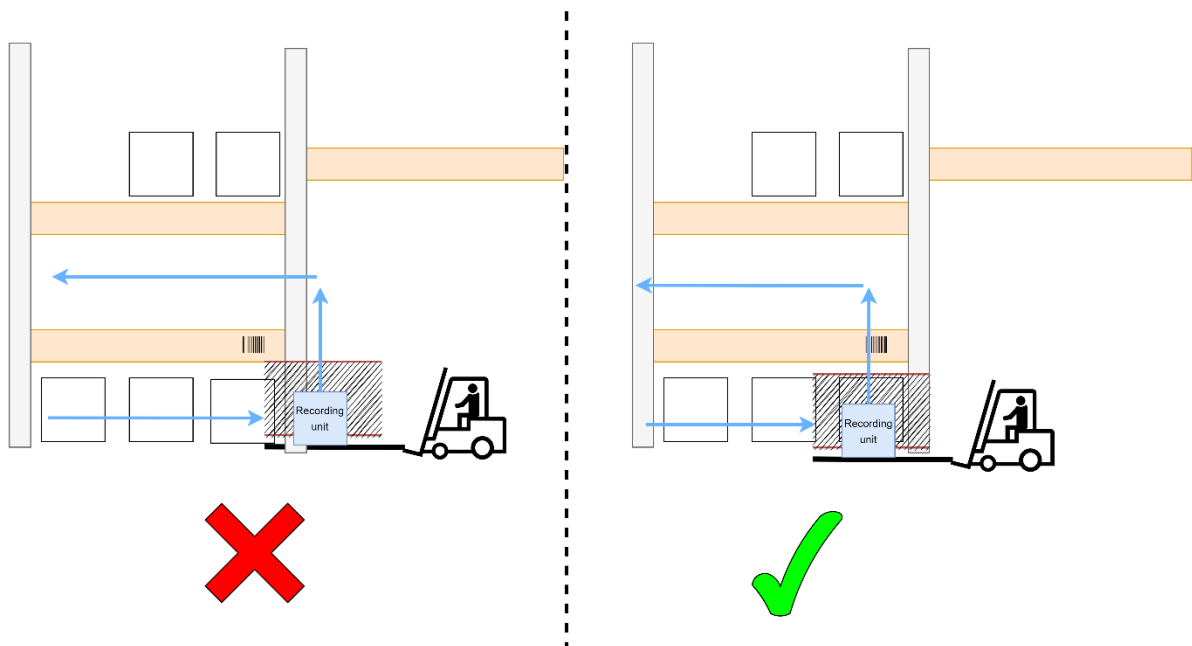

FIGURE 2-12 - VERTICAL SHIFT ALIGNMENT
2. Follow all the steps in section 2.5 "Recording a Standard Section". It is important that the camera field of view is inside the archway until it reaches the first level of pallets, to avoid reading the barcodes from the closest section when moving the camera up, see Figure 2-12 - Vertical shift alignment.